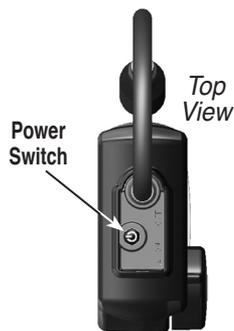

Figure 2
1. Place the power switch in the OFF / CHARGE position. See Figure 2.